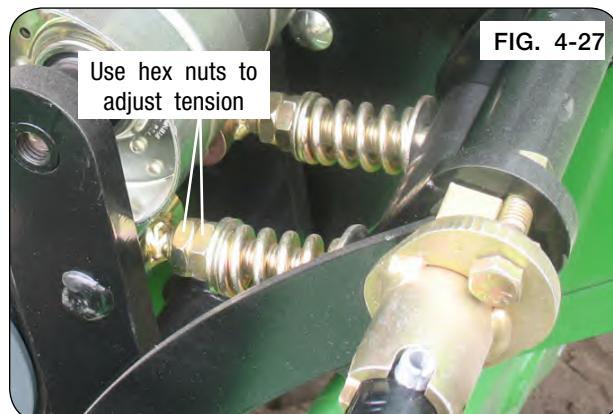

FIG. 4-27
5. Belt tension is adjusted with hex nuts below the spring. All belt tension **MUST** be released from linkage. Loosen outer hex nut and adjust inner nut to establish a $3 \frac{1}{16}$ " pre-load dimension between the heavy washers. Tighten the outer hex nut against inner nut to lock position. (FIG. 4-27)